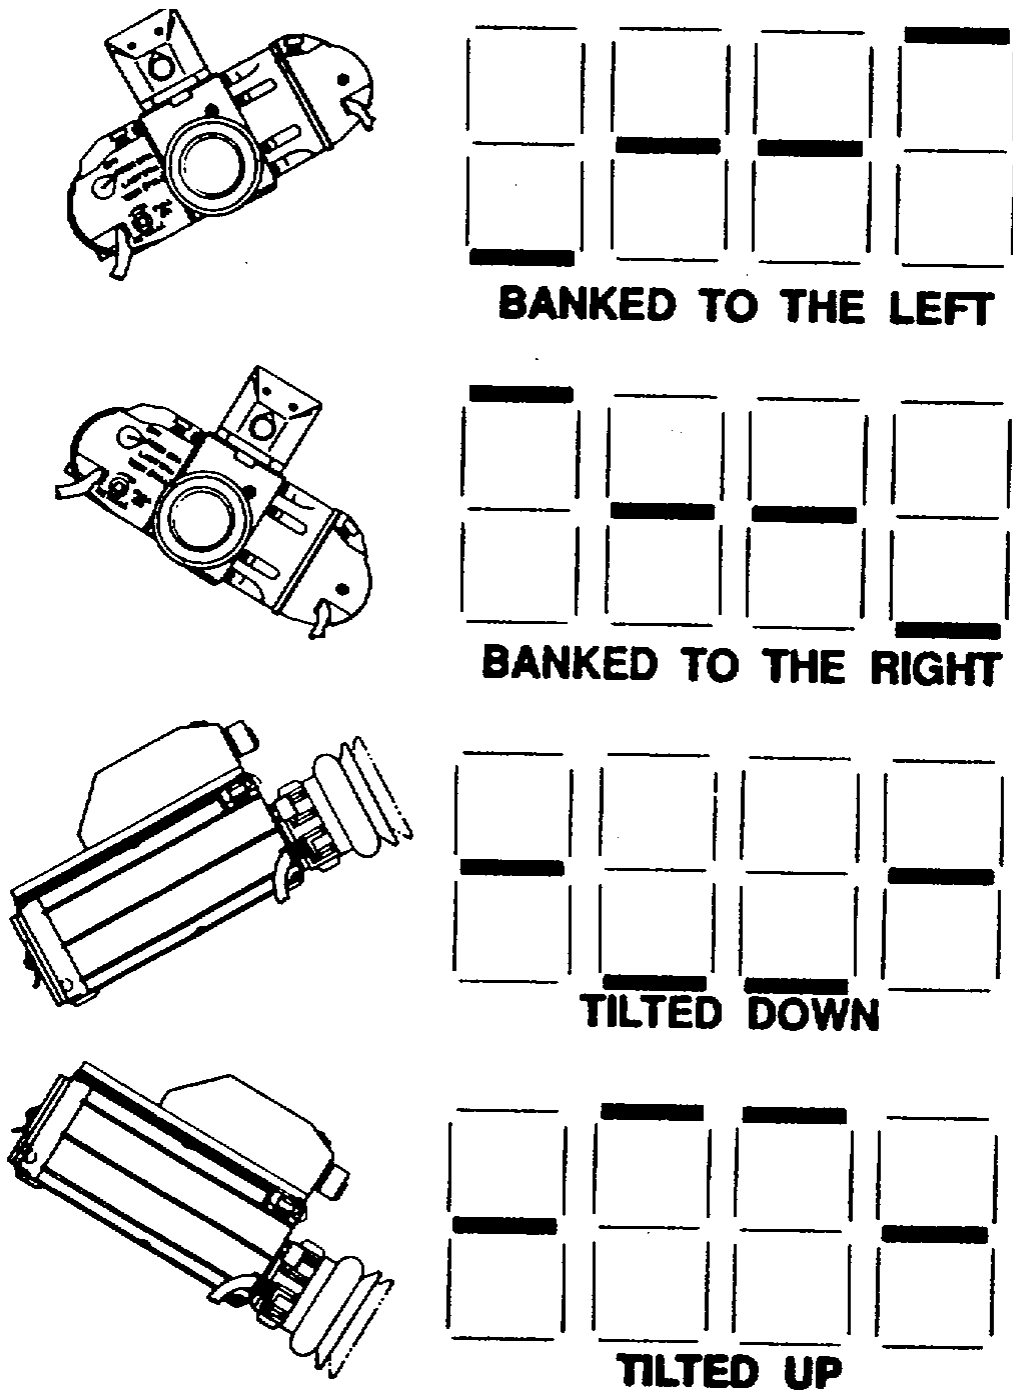

Figure 2-11. Banking Display
- If a banking display appears, reposition the MLRF to a more level position (Figure 2-11)
- MLRF tilted up and banked (Figures 2-11 and 2-13)
A banking display will (Figure 2-11) occur if the amount of "up or down" (tilt) approximately 30° and "left or right" (bank) positioning is approximately 300. If a "banking" display occurs, reposition the MLRF before making measurement. Each time the laser is fired and a successful measurement is made the C/VAM display will indicate the count of the last firing from "01" to "11". An unsuccessful measurement will result in an error (ER) display of the last firing from "ER01" to "ER12". An unsuccessful measurement must be repeated until all twelve measurements are successful. The internal compensation factor is computed automatically after making the twelfth successful measurement.
- If "banking" display occurs (Figure 2-11), reposition MLRF until standby display returns